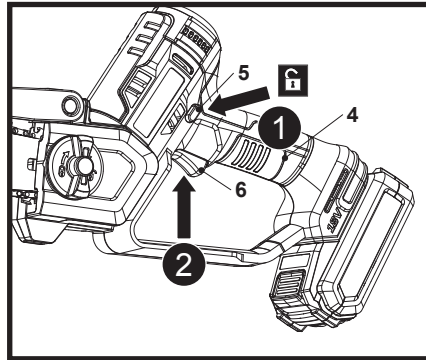

Fig. 12
1. Ensure the fully charged battery pack (19) is properly assembled onto the battery docking port (7).
2. Hold the product with one hand on the grip handle (4).
3. Press the lock-off lever (5) from either side of the product and hold it in position (Fig. 12, step 1).
4. Squeeze the on/off switch (6) to switch the product on (Fig. 12, step 2). Release the lock-off lever (5) afterward.
5. Release the on/off switch (6) to switch the product off.